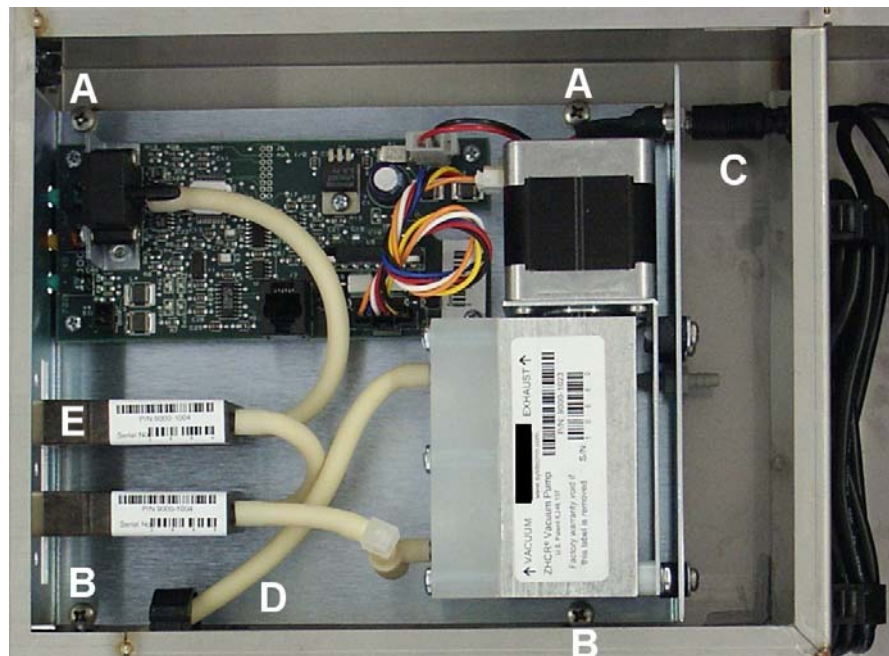

Fig. 5. side view of the dual-channel degasser mounted in OR 100 / 110.
1. Loosen the two lower mounting screws (Figure 5, B) of the degasser a few turns. Remove the two top screws completely (Figure 5, A).
3. Disconnect degasser power cable located at position (Figure 5, C).
1. Reconnect degasser power cable (Figure 5, C)
2. Insert degasser by positioning the bottom screws (B) into the mounting slits in the degasser frame.
3. Insert the two top screws and fasten them (Figure 5, A).
4. Fasten the two bottom screws (Figure 5, B).
5. Insert the exhaust tubing ((Figure 5, D) into the black clamp fixed on the bottom of the degasser compartment.